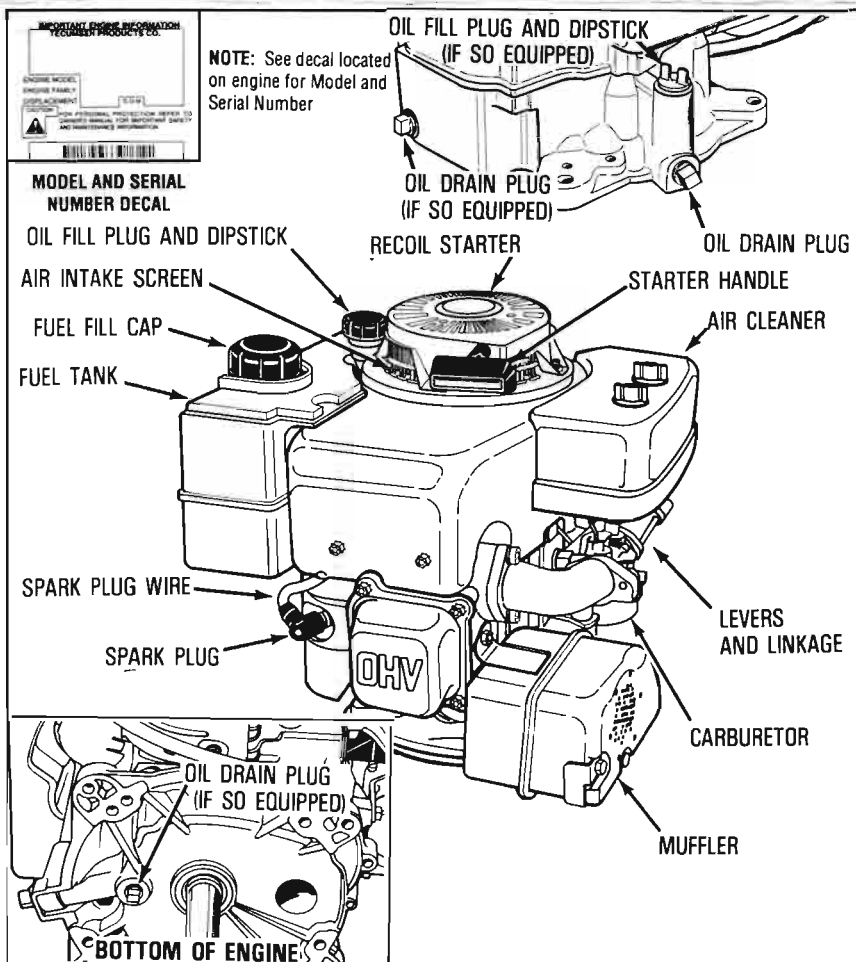

Figure 1
- Clean area around oil fill plug (see Figure 1).
- Be sure spark plug wire is attached to spark plug (see Figure 1).
- Grasp starter handle (see Figure 1) and pull rope out, slowly, until it pulls harder. Let rope rewind slowly. Then pull rope with a rapid full arm stroke. Let rope return to starter slowly.